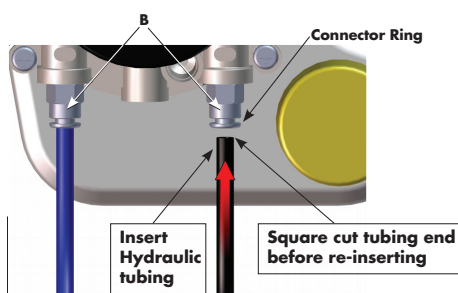
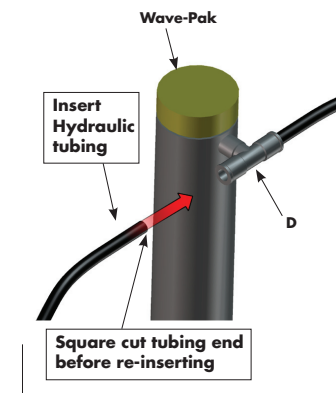

Figure A-2
Figure A-4
NOTE: Be sure to make a square cut as in Fig A-2 & Fig A-4.
2. Measure down from the cut end of tubing 1/2" for (A) & (B) fittings and 5/8" for (C) & (D) fittings and make a mark for a reference point. Next, with tubing clean of dirt or contaminants wrap cloth around tubing for gripping purposes and push straight into connector with a steady even pressure until it stops Fig A-2 & Fig A-4. The 1/2" or 5/8" reference mark should now be very close to edge of fitting ring.